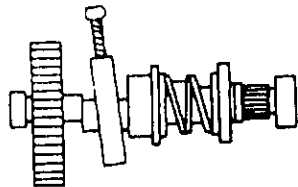

Fig.5
- (Intermediate shaft block) (See Fig. 5)